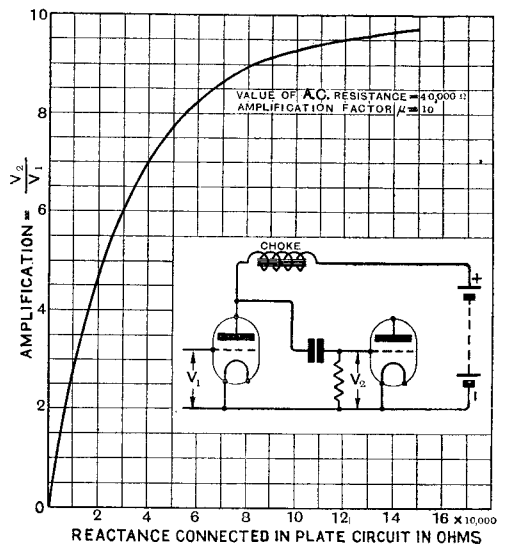

Fig 3.
By working out a few more examples, sufficient data will be obtained to enable one to plot a curve showing the relationship between the amplification obtained and the reactance of the coil in ohms. Such a curve has been plotted, and is given in Fig. 3.
It will be noticed that there is likely to be distortion through one element of the signal being amplified more than another if the choke has not a sufficiently large inductance. For example, suppose the choke has an inductance of only 12.8 henries. At a frequency of 500 cycles the reactance is 40,000 ohms, and from the curve of Fig. 3, the amplification is 7; for an element of the signal having a frequency of 250 cycles, the reactance is 20,000 ohms, and the amplification only 4.5; for a frequency of 1,000 cycles the reactance is 80,000 ohms and the amplification is 9. The 250 cycle element of the signal is only amplified to the extent of one-half of the 1,000 cycle signal.
(1) By employing a choke coil whose working inductance is so large that its reactance at the lower speech frequencies is at least twice the anode-filament resistance of the valve, the amplification obtained of all the speech frequencies is, for practical purposes, uniform.
(2) When the reactance is only twice the anode-filament resistance, 90 per cent. of the possible voltage amplification is obtained. The full amplification could only be obtained by making the reactance infinitely great; but from the curve, Fig. 3, it is seen that there is no practical gain in amplification by the use of a choke with a reactance larger than about twice the valve resistance.
(3) The anode voltage does not need to be increased beyond that determined from the characteristic curves of the valve, because chokes have, in general, quite a negligible direct current resistance.
(4) The remarks concerning the coupling condenser and grid leak made under the heading of resistance capacity coupling apply in the case of choke coupling.